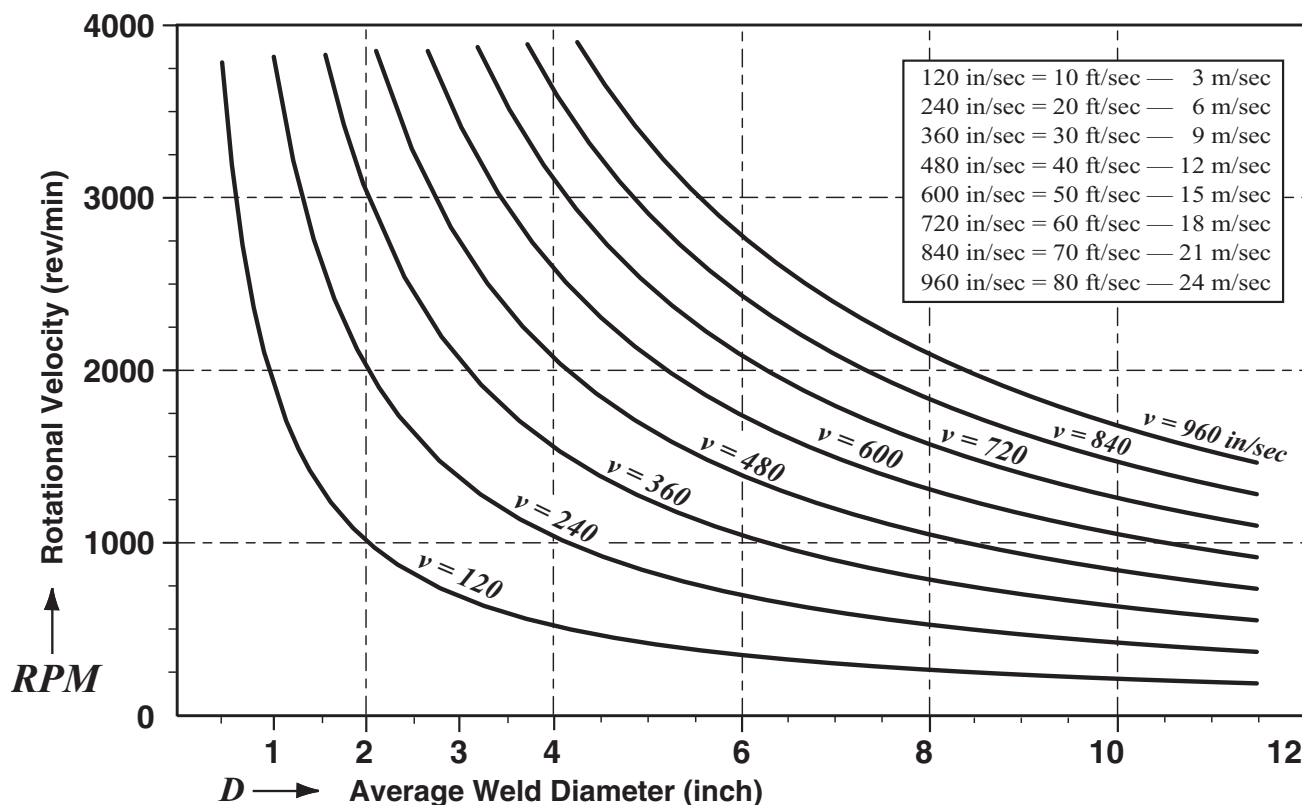

Figure 5-3 Dependence of Motor RPM on the Weld Diameter for Selected Surface Speeds
A plot of this expression is shown in Figure 5-3. Now we have RPM plotted as a function of weld joint diameter (D) for eight different values of v ranging from 120 to 960 inch/sec.